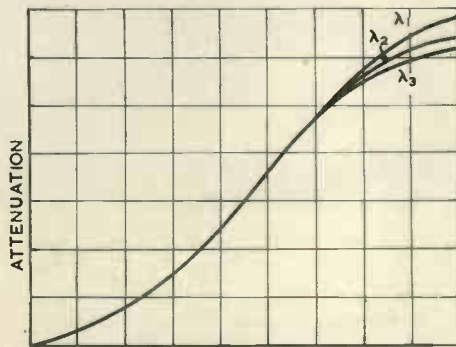

Fig. 7. Attenuation characteristics
The distribution of amplitude of the electric field across a rectangular waveguide is sinusoidal (equation (3)), being zero at each wall, and maximum in the centre. If a resistive vane is supported in the waveguide parallel to the narrow side (i.e. parallel to the electric vector) and moved from the side into the centre, the attenuation caused by the vane will rise from zero to a maximum. Under the optimum conditions, the graph of insertion against attenuation takes the form of Fig. 7. The curve is smooth, and the variation of attenuation with frequency is beyond the limits of normal measuring accuracy except at the upper end of the range.